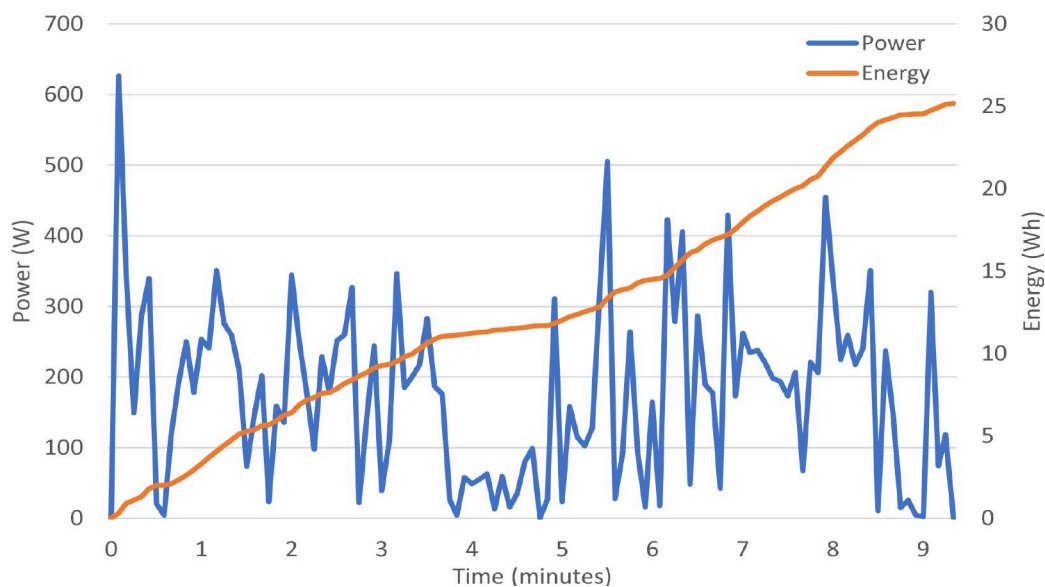

Figure 10: Example data recorded on a Standard Class vehicle during the Endurance event.
- An example of the data that the energy monitor will record is shown in Figure 10 (recorded at the 2022 Taranaki Regional Finals). In this example, the final energy value was 24.97Wh.